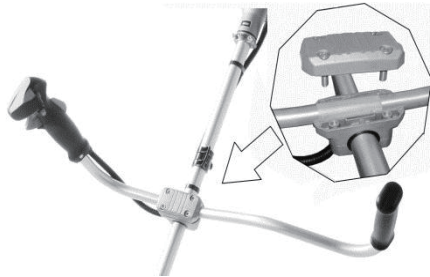

Fig.1-2
- 2) Place the handle in position and assemble the upper cover.(fig.1-2)